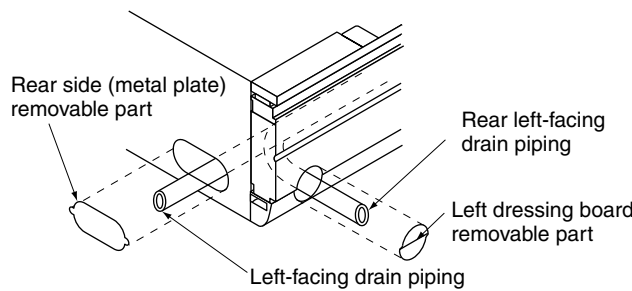

Fig. 20
(1) Carry out the drain piping.
- The drain pipe outlet direction can be chosen from the right rear, right, left rear, and left. Refer to "REFRIGERANT PIPING WORK" for right rear and right direction, and refer to Fig. 20 for left rear and left direction.